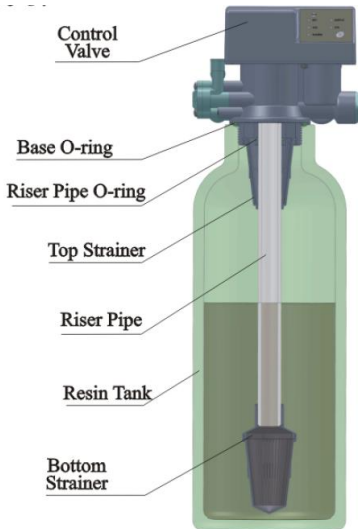

Figure1-1
- ① The filter or softener should be located close to drain.
- ② Ensure the unit is installed in enough space for operating and maintenance.
- ③ Brine tank needs to be close to softener.
- ④ The unit should be kept away from the heater, and not be exposed outdoor. Sunshine or rain will cause the system damage.
- ⑤ Please avoid installing the system in one acid/alkaline, magnetic or strong vibration circumstance, because above factors will cause the system disorder.
- ⑥ Do not install the filter or softener, drain pipeline in circumstance which temperature may drop below 5°C or above 50°C.
- ⑦ Install the system in the place where with minimum loss in case of water leakage.
- ① Install control valve
a. As the Figure 1-1 shows, select the riser pipe with 26.7mm OD, glue the riser pipe to the bottom strainer and put it into the mineral tank, cut off the exceeding pipe out of tank top opening and make external rounding.